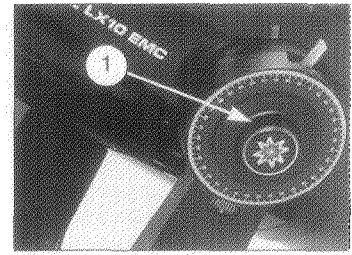

Fig. 10: (1) Declination (Dec) Lock.
- c. Place the telescope's Declination lock and Right Ascension lock into the "locked" position (3, Fig. 1 and 1, Fig. 10) to prevent movement of the optical tube as you lift the telescope.
Dec slow-motion control continuously in the same direction, the control will become difficult to turn. Do not attempt to turn the Dec slow-motion control past this point or damage to the internal mechanism will result. Instead, back-off the Dec slow-motion control by turning the control about 50 turns in the opposite direction. Unlock the Dec lock (Fig. 10) and move the telescope manually to center the object; then resume use of the Dec slow-motion control. Never attempt to move the optical tube manually when the Dec lock (1, Fig. 10) is in the LOCKED position.
Dec Lock (1, Fig. 10): Locking and unlocking the Dec movement of the optical tube is accomplished by moving the Dec